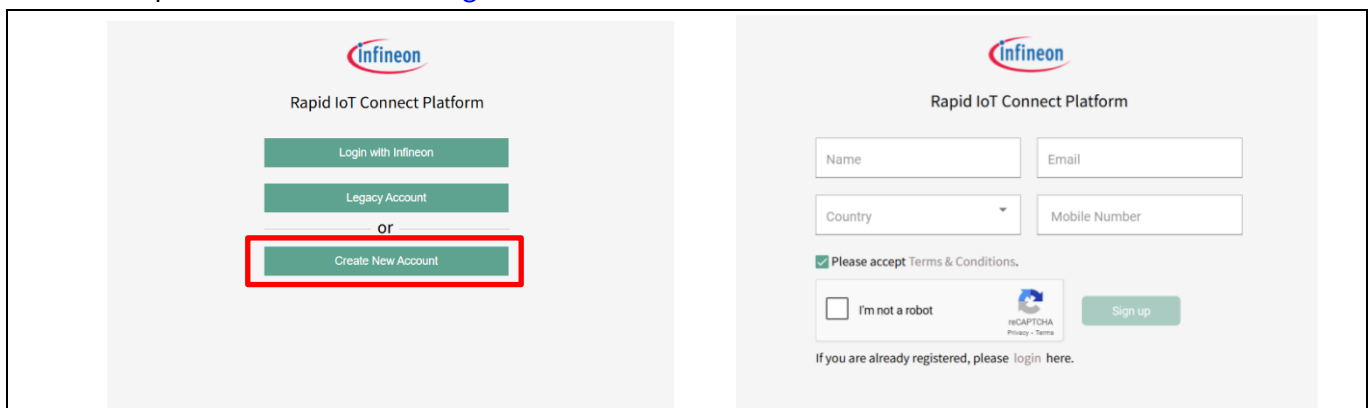

Figure 6 Rapid IoT Connect Platform signup
1. Create an account with the Infineon Rapid IoT Connect Platform by signing up with your email address and other required details as shown Figure 6